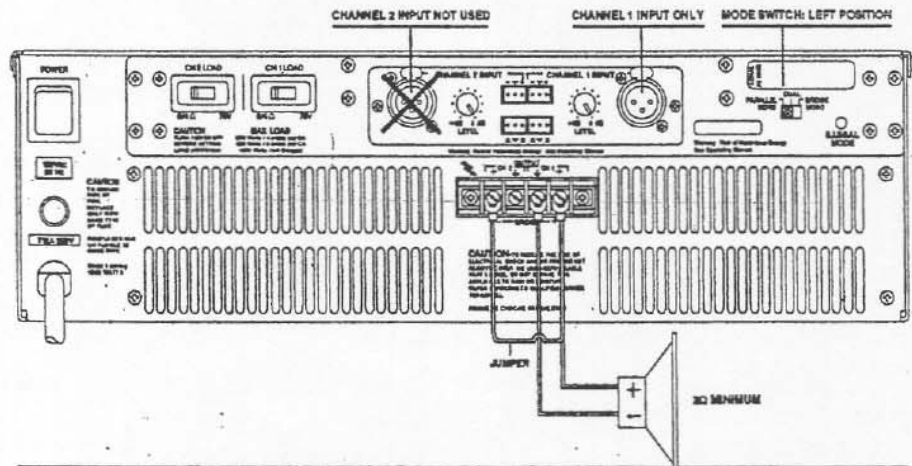

Figure 9 Parallel Mono Connections
**Parallel Mono** - This configuration provides the means to increase the current delivered to a single speaker load by shorting the outputs together (Figure 9). Both channels are combined to create one power amplifier that has the equivalent power capacity of both channels. Do not make the mistake however of assuming that for example, a 7180A in parallel mono mode driving a single 8-ohm load will deliver 800 watts. It will still deliver 400 watts with a 0 dBu input signal. The advantage of parallel mono is the ability to double the power into a 4-ohm load (800 watts) as well as deliver still more power into 2 ohms (1000 watts) without overheating or current limiting. For distributed 70-volt line applications, parallel mono mode allows